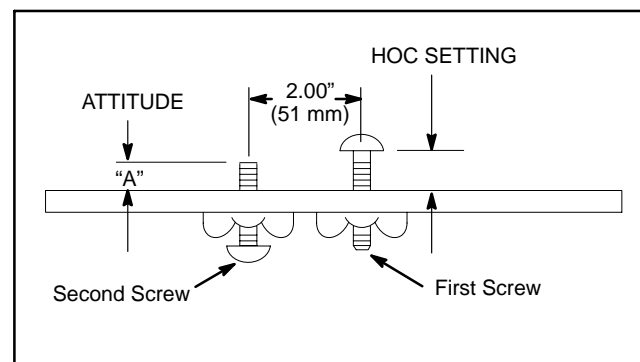

Figure 13
For setting consistent cutting unit attitude, Toro strongly recommends using a two-screw gauge bar, Toro part no. 98-1852 (Fig.13). The first screw is set for height-of-cut, and the second screw is set for cutting unit attitude. The second screw setting is an easy method of transferring cutting unit attitude to all cutting units on a machine.
1. Using a two-screw gauge bar, Toro Part No. 98-1852, set first screw to desired height-of-cut. This setting is from the bar face to the underside of the screw head (Fig. 13).
2. Using **Table 1**, set the attitude, "A," for the second screw on the gauge bar. This setting is from the bar face to the end of the screw (Fig. 13).